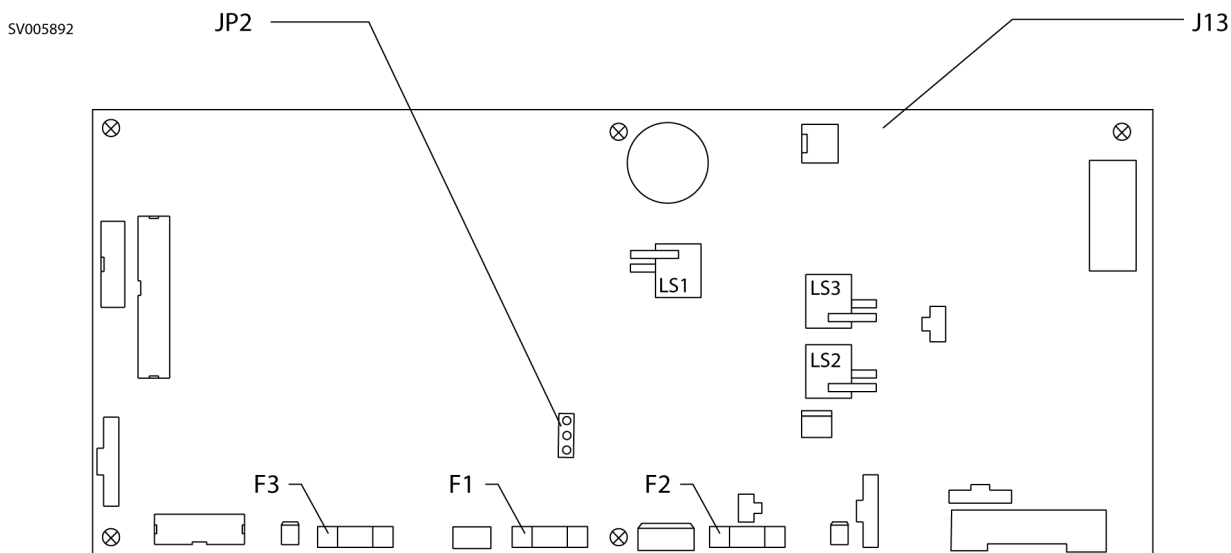

Figure 6 Boot Strap Jumper and Download Connections on Control PCB P/N 4116632
4. Connect the 3-pin plug end of the boot strap download cable (P/N 4117459) to J13 on the control PCB. See Figure 6.